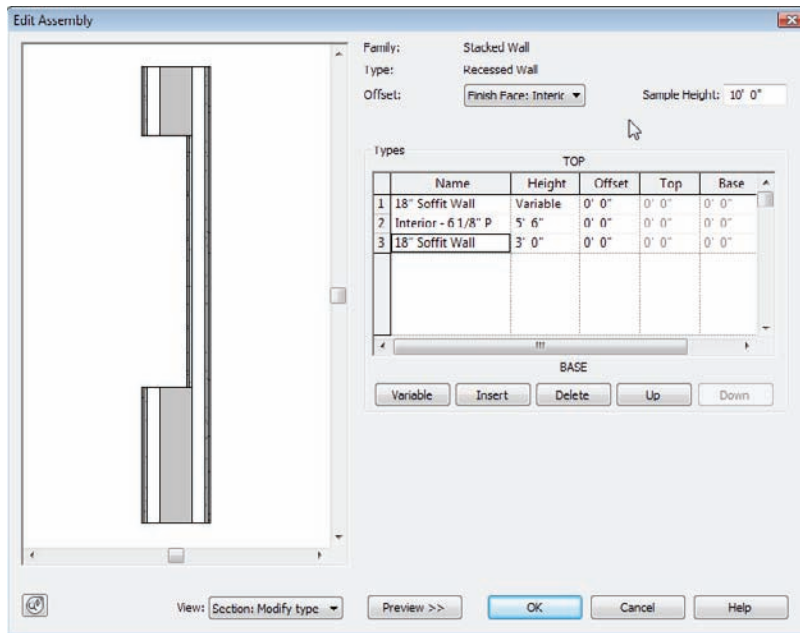

FIGURE 16.23 Creating the stacked wall
14. At the top of the dialog, change Sample Height to 10'-0" (1100mm) (see Figure 16.23).